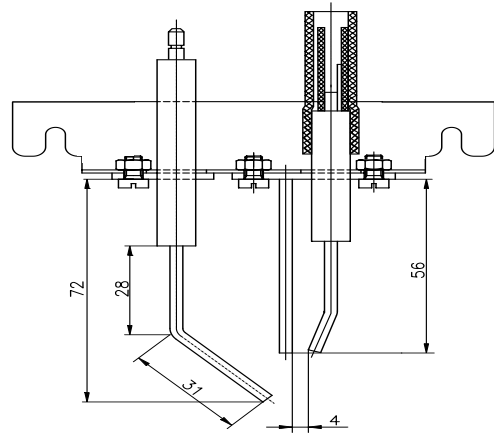

Fig. 34: Electrode adjustment
7. Check the electrode setting according to Fig. 34.